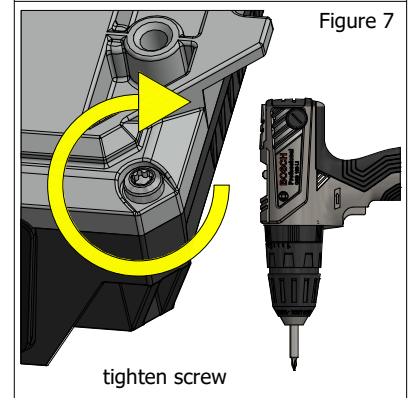

Figure 7
- 3.4.3 Use a cordless torque driver and tighten the screws | Drive type: Torx T10 | Torque 0.9 Nm (Figure 7)